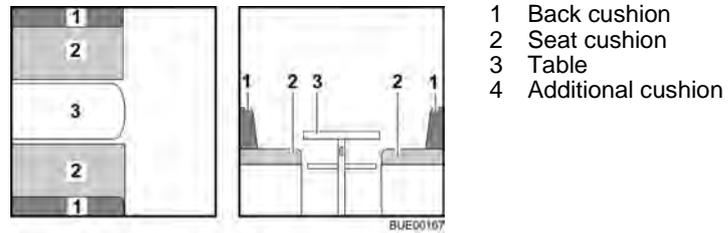

Fig. 86 Prior to conversion
- Convert the table (Fig. 86,3) to a bed foundation (see section 6.11).
- Remove the back cushions (Fig. 86,1) and lay them aside.